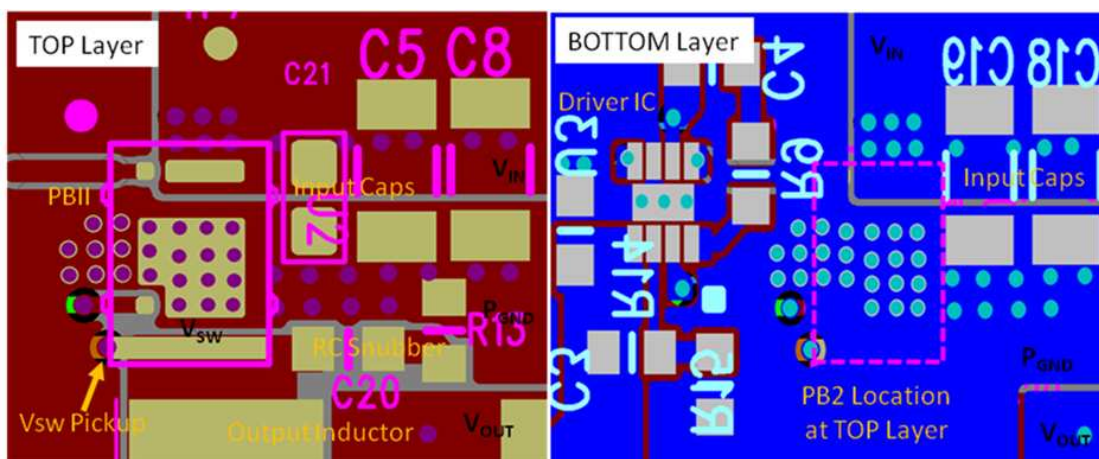

Figure 29. Recommended PCB Layout (Top Down View)
- The placement of the input capacitors relative to VIN and PGND pins of CSD87384M device should have the highest priority during the component placement routine. It is critical to minimize these node lengths. As such, ceramic input capacitors need to be placed as close as possible to the VIN and PGND pins (see Figure 29). The example in Figure 29 uses 1 × 10 nF 0402 25 V and 4 × 10 μF 1206 25 V ceramic capacitors (TDK part number C3216X5R1C106KT or equivalent). Notice there are ceramic capacitors on both sides of the board with an appropriate amount of vias interconnecting both layers. In terms of priority of placement next to the Power Stage C21, C5, C8, C19, and C18 should follow in order.
- The switching node of the output inductor should be placed relatively close to the Power Block II CSD87384M VSW pins. Minimizing the VSW node length between these two components will reduce the PCB conduction losses and actually reduce the switching noise level. See Figure 29. ⁽¹⁾
- Use the smallest drill size allowed in your design. The example in Figure 29 uses vias with a 10 mil drill hole and a 16 mil capture pad.